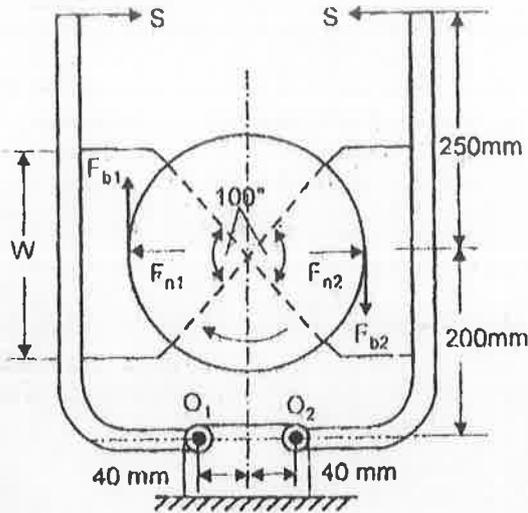

Fig 15 (b)
- (OR)
- b) A pair of helical gears subjected to moderate shock loading is to transmit 37.5 kW at 1750 rpm of the pinion. The speed reduction ratio is 4.25 and the helix angle is 15° . The service is continuous and the teeth are 20° full depth in the normal plane. Design the gears, assuming a life of 10,000 hours. (13)
13. a) Design a bevel gear drive to transmit 7 kW at 1600 rpm for the following data. Gear ratio = 3, Material for pinion and gear = C45 Steel, Life = 10,000 hours. (13)
- b) The input to worm gear shaft is 18 kW and 600 rpm. Speed of worm wheel is 30 rpm. The worm is to be hardened steel and the wheel is made of chilled phosphor bronze. Considering wear and strength, design worm and worm wheel. (13)
14. a) Design the layout of a 12 speed gear box for a lathe. The minimum and maximum speeds are around to be 30 rpm and 1400 rpm respectively. Construct the speed diagram using a standard speed ratio and sketch the arrangement of the gear box. (13)
- b) Design a 16 speed gear box, the minimum speed is 100 rpm and maximum speed is 560 rpm. Construct the speed diagram using a standard speed ratio and sketch the arrangement of the gear box. (13)
15. a) A single plate clutch, effective on both sides, is required to transmit 25 kW at 1500 rpm. Determine the inner and outer diameter of friction surface if the coefficient of friction is 0.25, ratio of diameter is 1.5 and the maximum pressure is not to exceed 2 N/mm^2 . Also, determine the axial thrust to be provided by springs. Assume the theory of uniform wear and max. pressure theory. (13)
- b) A double shoe brake as shown in fig 15 (b) is capable of absorbing a torque of 1500 N-m. The diameter of the brake drum is 400 mm and the angle of contact for each shoe is 100° . If the coefficient of friction between the brake drum and lining is 0.4, find (i) the spring force necessary to set the brake and (ii) the width of the brake shoe, if the bearing pressure on the lining material is not to exceed 0.3 N/mm^2 . (13)